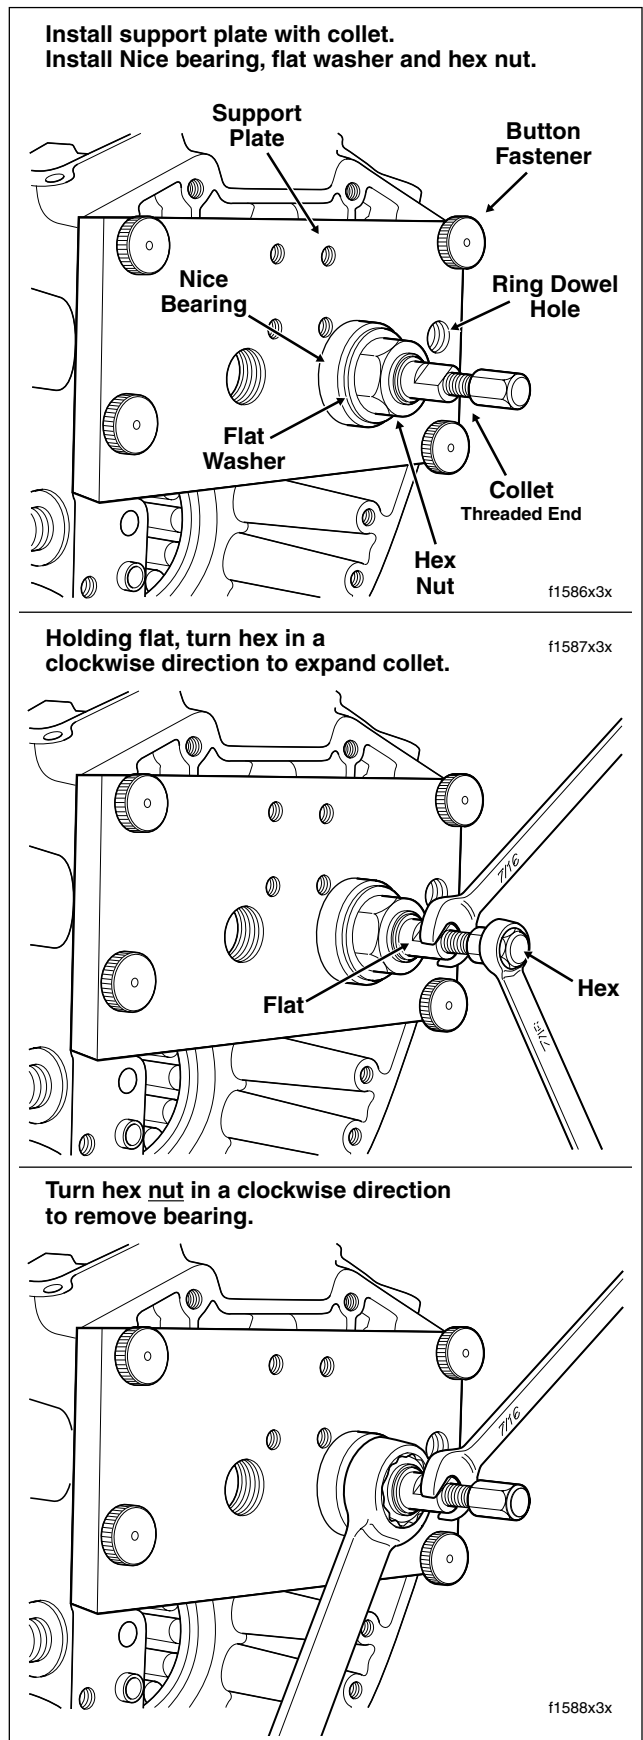

Figure 3-117. Remove Cam Needle Bearing
6. Align four holes at corners of support plate with threaded holes in crankcase flange. Install button fasteners in these holes to secure support plate to crankcase. See upper frame of Figure 3-117.
10. Using a 7/16 inch open end wrench, hold flat on collet to prevent rotation. Using a second 7/16 inch open end wrench, expand collet by turning hex at end of shaft in a clockwise direction. See center frame of Figure 3-117. Expandable end of collet makes contact with needle bearing ID.
11. Using a 15/16 inch open end wrench, turn hex nut in a clockwise direction until bearing is free. If necessary, hold flat on collet to prevent rotation. See lower frame of Figure 3-117.